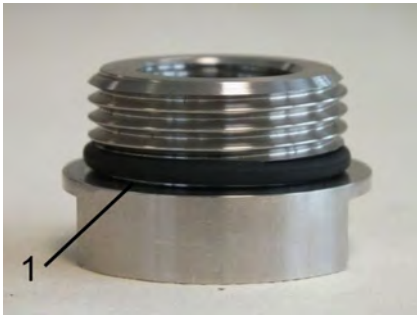

Fig. 56: Properly positioned O-ring
1. Carefully install the O-rings (Fig. 55/2) with the aid of the O-ring installation tool (Fig. 55/1) onto both process connections (inlet and outlet), so that they are properly seated in the O-ring grooves of the process connection (Fig. 56/1). When doing so, be careful not to overstretch the O-rings.
2. Position the O-ring properly on the process connection (Fig. 56/1)